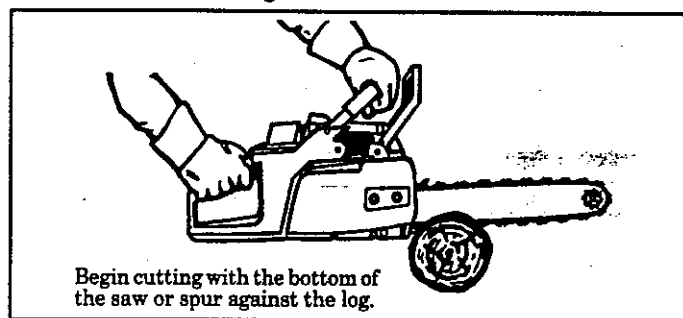

Figure 17
- b. **Begin cutting with the saw frame or spur against the log.** Figure 17.